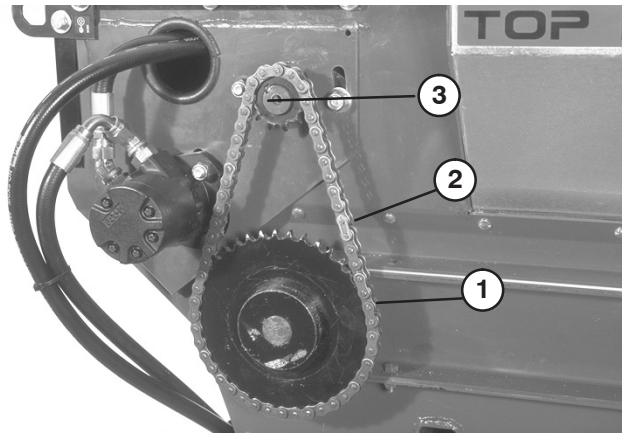

Figure 24
2. Remove master link from chain and remove chain from small sprocket (Fig. 24).